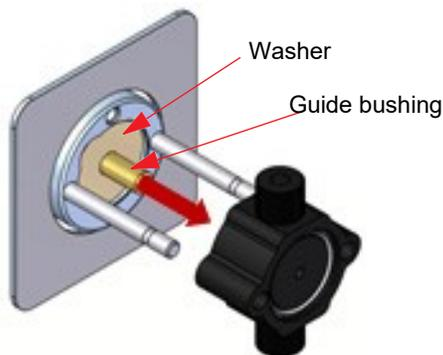

Figure 8: Removing the pump spacer block
- Carefully pull the pump spacer block forward and off the guide pins. Pull straight and slowly to prevent damage to the piston. Also, remove the guide bushing from the piston if it did not stay in the pump spacer block (Figure 8).